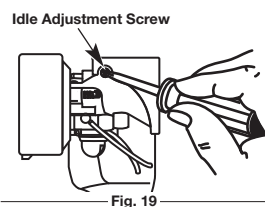

Fig. 19
The idle speed of the engine is adjustable. An idle adjustment screw is between the air filter cover and the engine starter housing (Fig. 19).
- Release the throttle lever and let the engine idle. If the engine stops, insert a small Phillips in between the air filter cover and the engine cover (Fig. 19). Turn the idle speed screw in, clockwise, 1/8 of a turn at a time (as needed) until the engine idles smoothly.